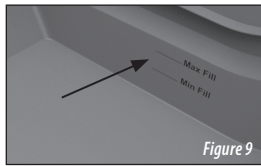

Figure 9
1. Add litter to the FILL line in the Litter Tray (see Fig. 9). Your Self-Cleaning Litter Box works with most litter brands, but clumping-type litter works best with this system.